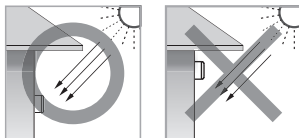

FIG.2
- Avoid the shadow to effect on twilight switch (See FIG.2).